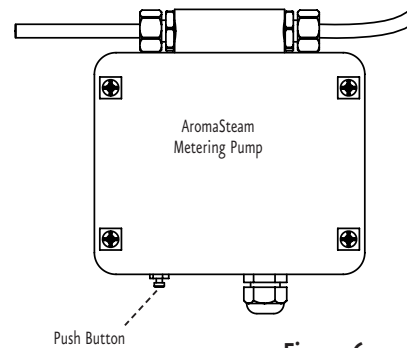

Figure 6
2. Locate the Push-button at the rear of the metering pump (see Fig. 6). Depress this push-button to start metering pump.